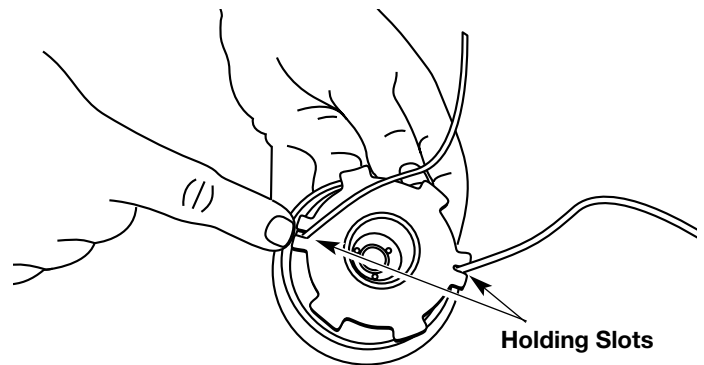

Fig. 27
8. Insert the ends of the line into the two holding slots (Fig. 27).